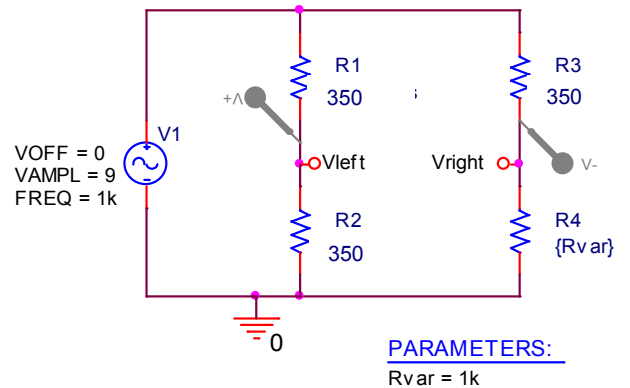

Figure A-2.
- Now your circuit should look like the figure below. When you have finished, you will see the parameter and its default value listed under Parameters. (Refer to Figure A-2 below.)